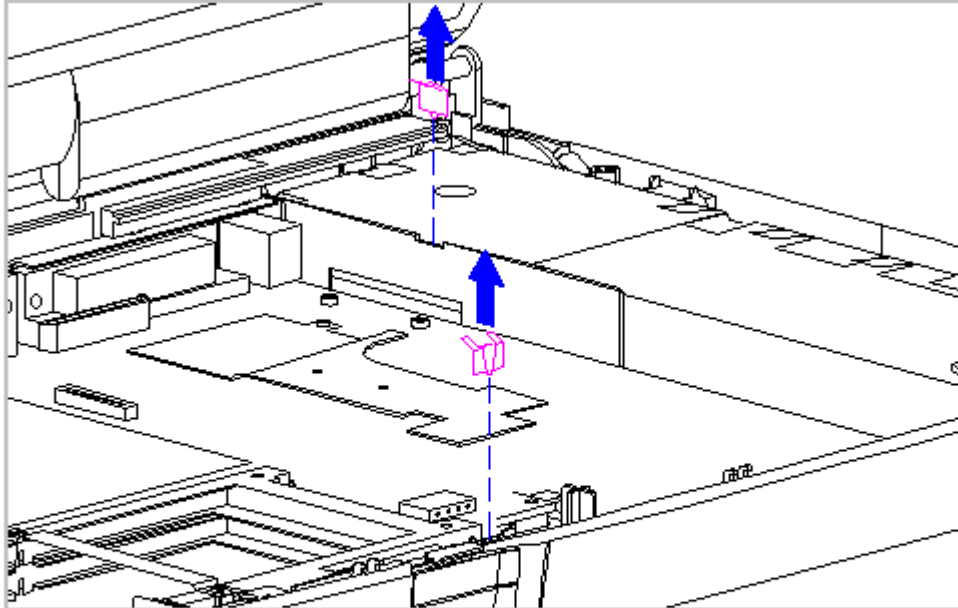

Figure 5-46. Removing the Keyboard Ground Clips from the System Board
11. Remove the two keyboard ground clips from the chassis (Figure 5-46).